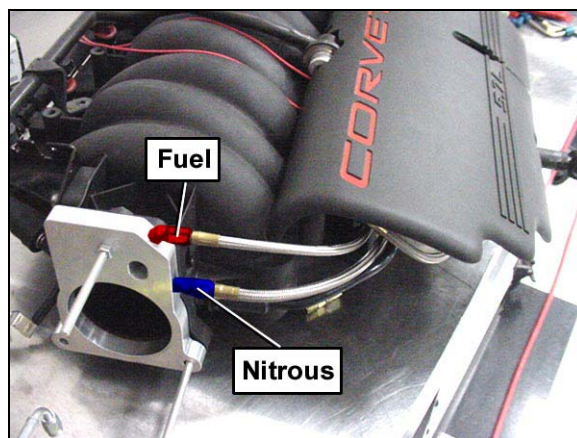

Figure 15
11. Run your lines from the solenoids to the plate (Figure 15).